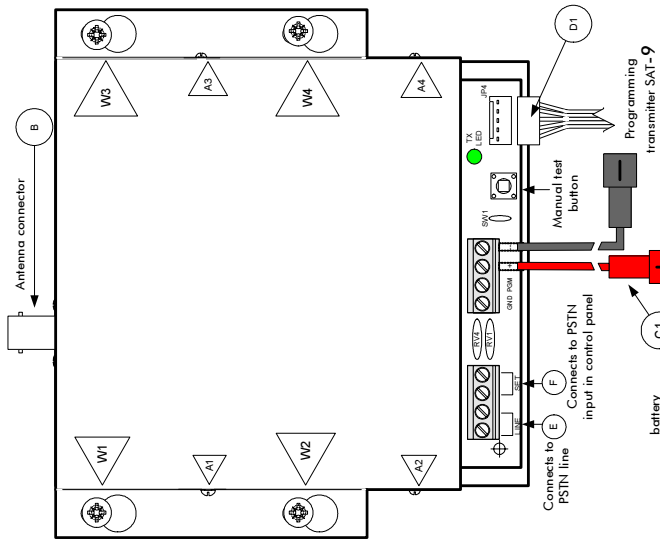

Figure 1 - Mounting SAT-9
- 6 When SAT-9 is used as PSTN backup, connect the SAT-9 LINE input to the PSTN line (marked E in Figure 1)
- 1 Mount SAT-9 to the designated surface (not further than 10 meters from the Alarm System) using four supplied screws (marked W1-4 in Figure 1)
- 2 Connect the antenna to the transmitter (marked B in Figure 1)
- 4 Connect the panel to a constant power source: 4A minimum (marked C1 in Figure 1)
- 5 Connect the Alarm System dialer output to the SAT-9 SET input (marked F in Figure 1)